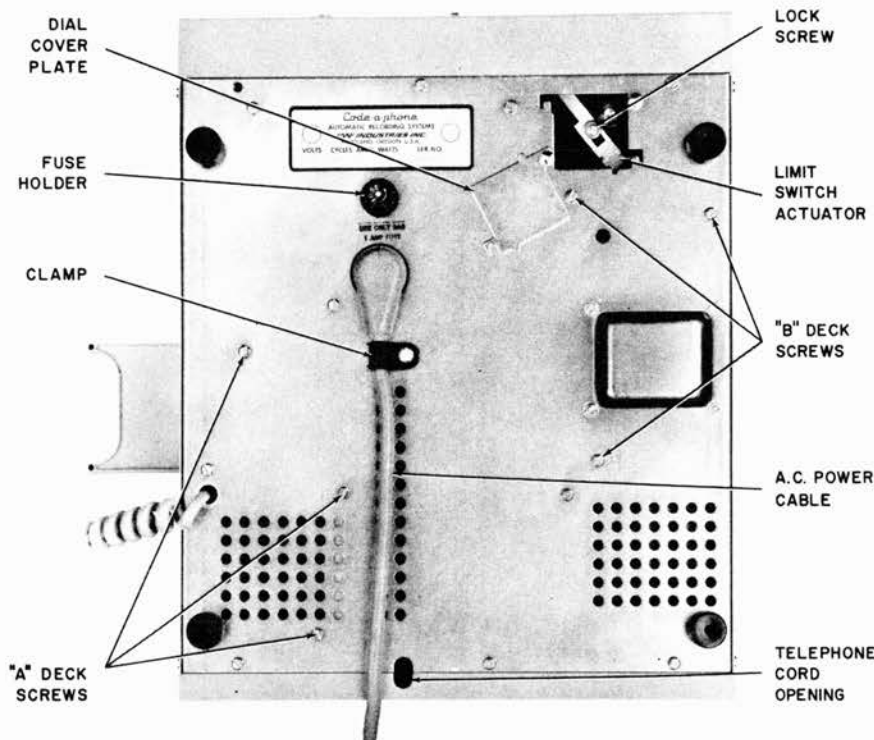

FIGURE 2 MODEL 700 BOTTOM VIEW
2. Locate the telephone connecting cord that enters the Model 700 through the Telephone Cord Opening (fig. 2). The cord should be anchored with a metal clamp and the Clamp Screw (fig. 11). The Model 700 is supplied with a 5-conductor cord, Ford part number 30-01-320.
5. Insert A.C. Power Cable into Model 700 and secure with Clamp as shown in fig. 2.
- e. Loosen 2 screws and remove Dial Cover Plate (fig. 2).
- f. Loosen Lock Screw and slide Limit Switch Actuator to the "1 hr." notch. See fig. 2.